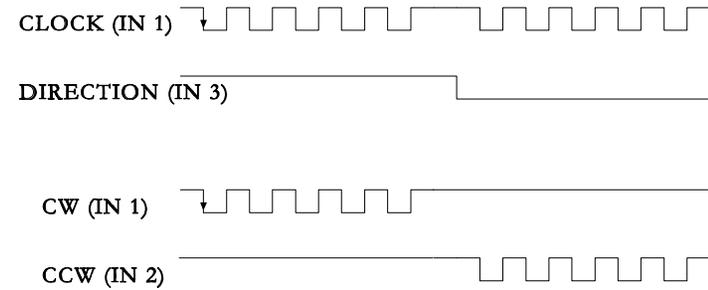

Figure 7: The CLOCK and DIRECTION signals are equivalent to the CW and CCW signals
**CLOCK and DIRECTION:** Pulses applied to the CLOCK input will cause the motor to step in the clockwise direction if the DIRECTION input is logic "1". Pulses applied to the CLOCK input will cause the motor to step in the counterclockwise direction if the DIRECTION input is logic "0". Figure 7 shows Clock and Direction signals which will make 5 steps in the clockwise direction and 5 steps in the counterclockwise direction.
**CLOCK and CCW:** Pulses applied to the CLOCK input cause the motor to step in the clockwise direction. Pulses applied to the CCW input cause the motor to step in the counterclockwise direction. Pulses should NOT be applied to both of these inputs at the same time. The input which is not being used should be held low when using positive going clock inputs, or held high when using negative going clock inputs. Figure 7 shows Clock and Direction signals which will make 5 steps in the clockwise direction and 5 steps in the counterclockwise direction.